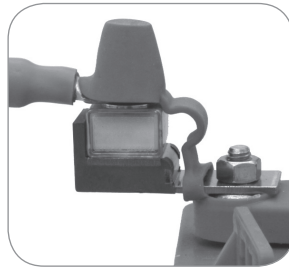

Fig. 10. Installed arrangement
E. Bolt the CFBAR to the Positive terminal stud of the Battery usually denoted by the '+' sign as shown in Fig. 10.